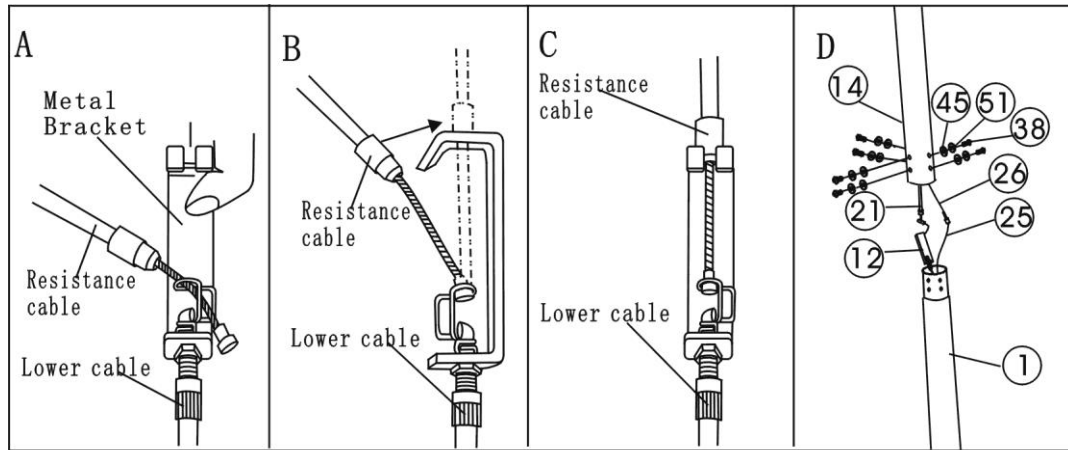

Figure 3
- a. On the lower position of the front upright frame (14), there is the tension control (21). Connect the joint of the tension control (21) with the tension control wire (12) firmly. < Note: at first, please turn the tension control's knob to the bottom of the “-“ direction (in this situation, the joint of the tension control will be extended to the longest)>. Then put the end of resistance cable into the spring hook of Tension control wire (12) as shown on drawing **A** of figure 3.
Pull the resistance cable up and force it into the gap of metal bracket of Tension control wire (12) as shown on drawing **B** of figure 3
Connect the resistance cable with the Tension control wire (12) completed as shown on drawing **C** of figure 3. If the upper side of the tension control wire cannot fix perfectly in the gap of metal bracket, please adjust the nut which below the bracket to the suitable position.
- b. Connect the computer wire (26) to the Sensor wire (25) coming out from mainframe (1) as show on drawing **D** of figure3.
- c. Insert the Front upright frame (14) to the main frame (1) and secure it with six pieces of M8 x 20 Bolts (38),  $\Phi$ 8 Spring washers (51), and  $\Phi$ 8 Arc washers (45) as shown on drawing **D** of figure 3.